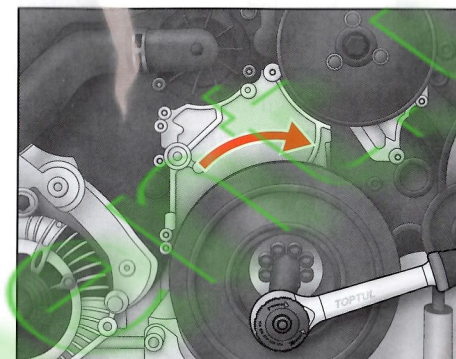

Fig.5
4. Using Crankshaft Adjuster (Part No.A), rotate the crankshaft in the direction of rotation to TDC on No.1 cylinder. (Fig.5)